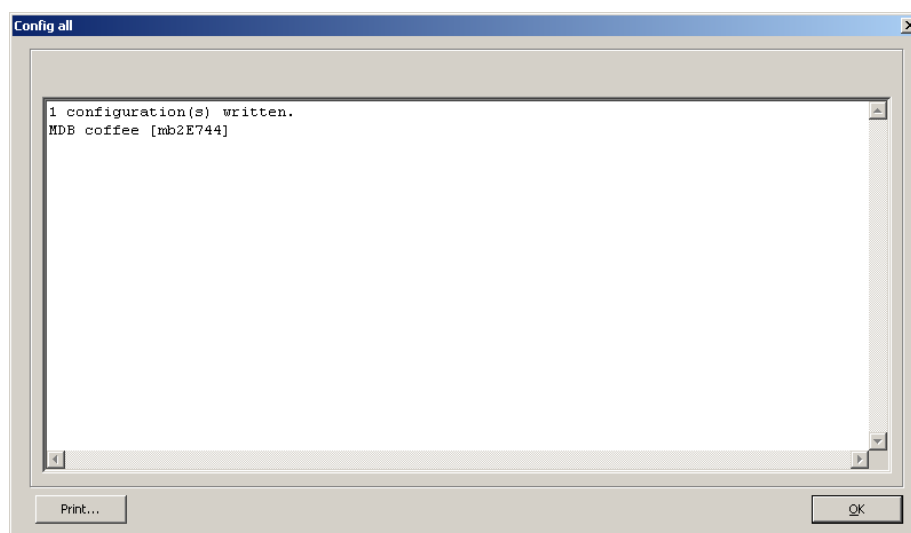

Figure 4-22
8. Click **OK**. The configuration files will be written to the USB stick and you will see a result screen (Figure 4-22). The configuration is written to a folder on the USB stick with the name config\[unit type].[descriptor version]\[machine type] and consists of files with the name <ALL.\*>.